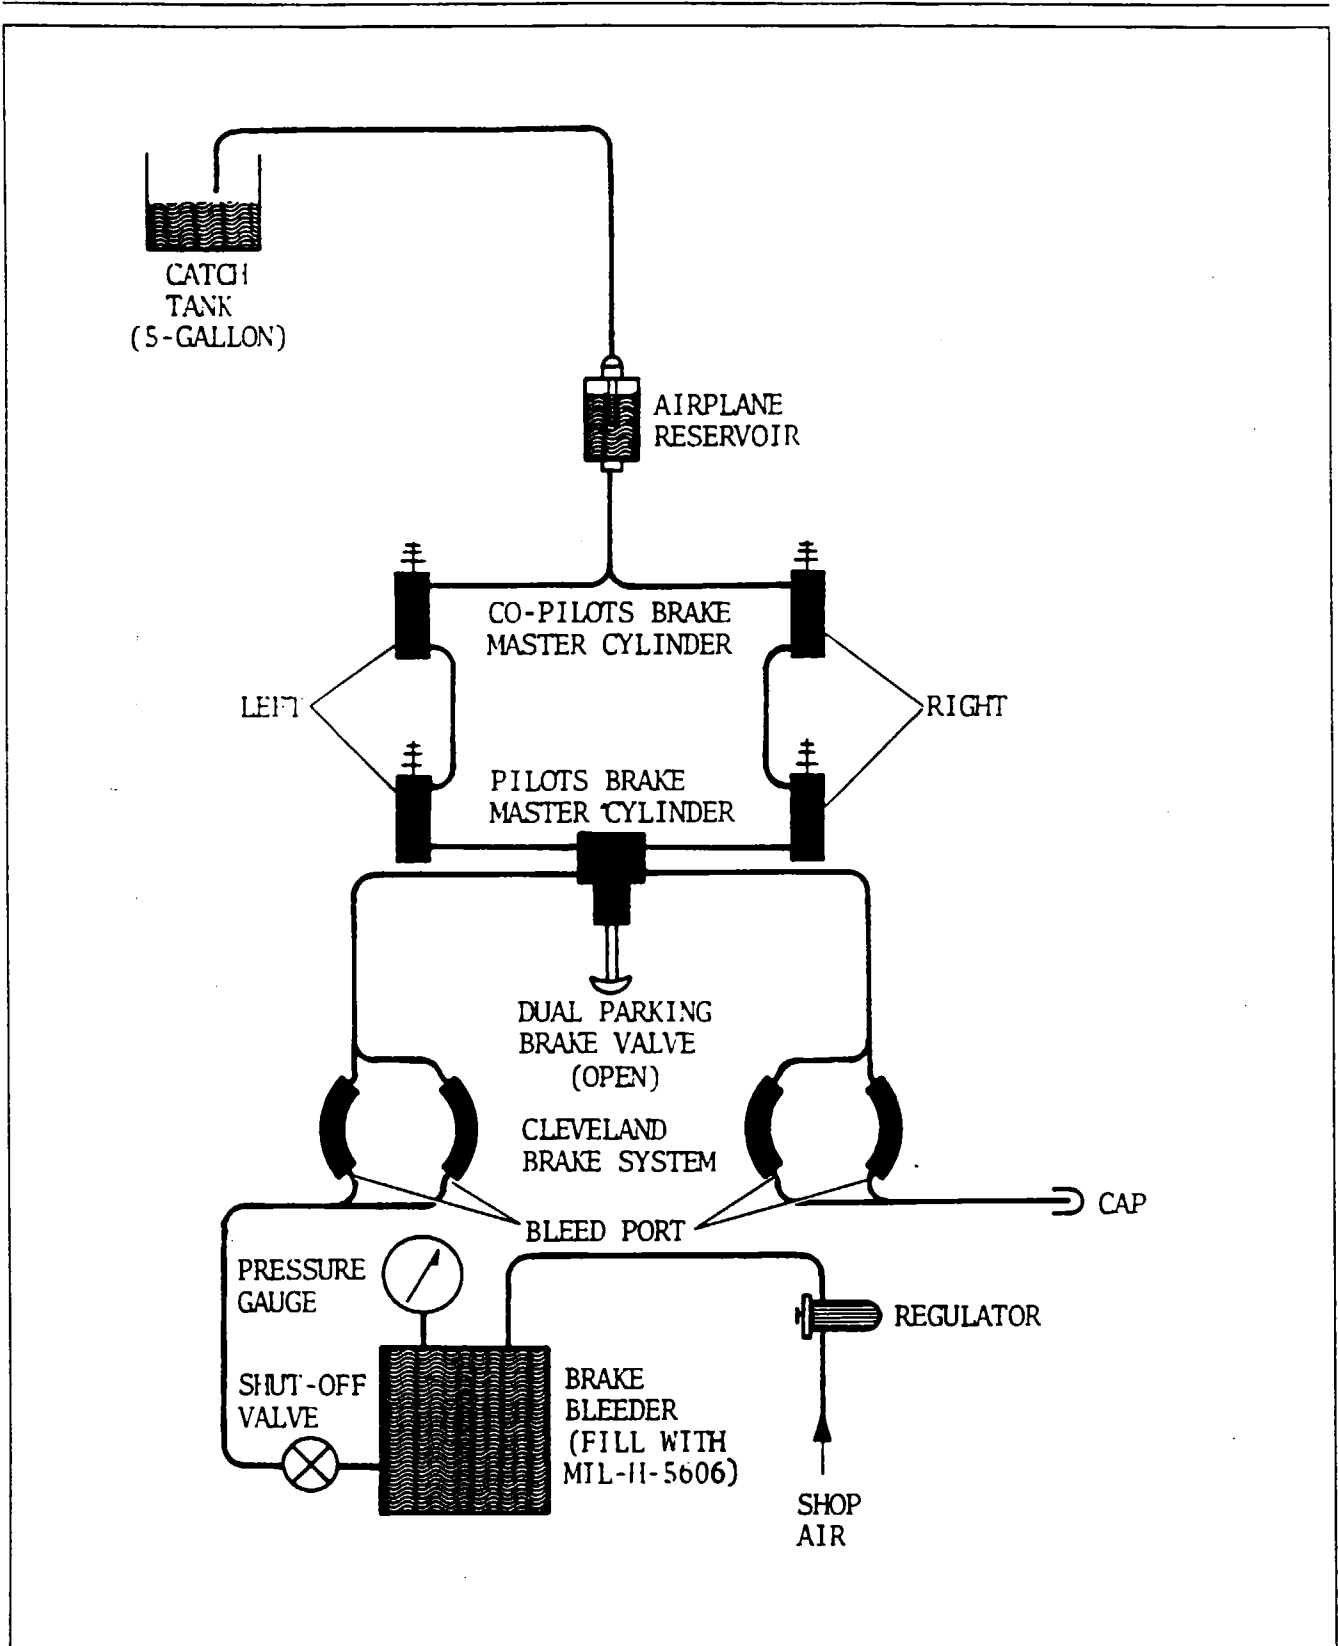

Figure 32-24. Bleeding Brake (Pressure Pot)
3. Slide a hose over the bleeder fitting, loosen the fitting one turn and pressure fill the brake system with MIL-H-5606 fluid. (Refer to Figure 32-24.)